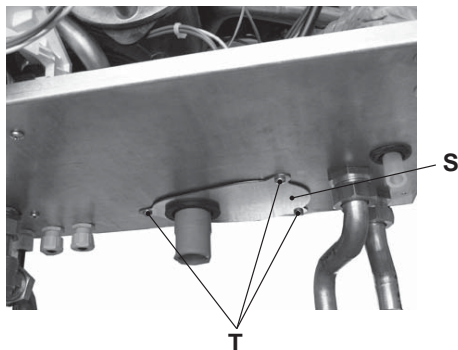

Fig. 9.9
- Unscrew the screws T and remove the plate S (Fig. 9.9).